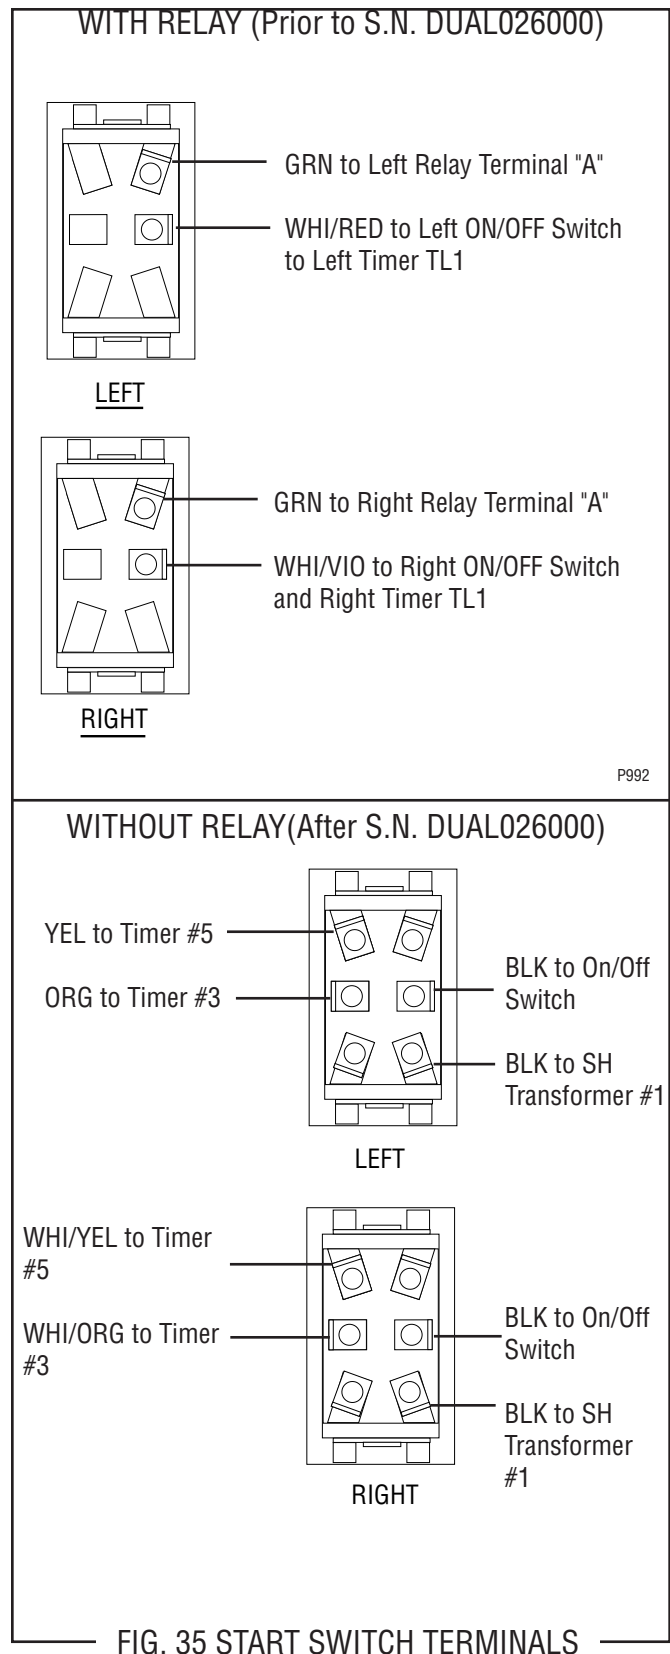

FIG. 35 START SWITCH TERMINALS
4. Refer to Fig. 35 when reconnecting the wires.